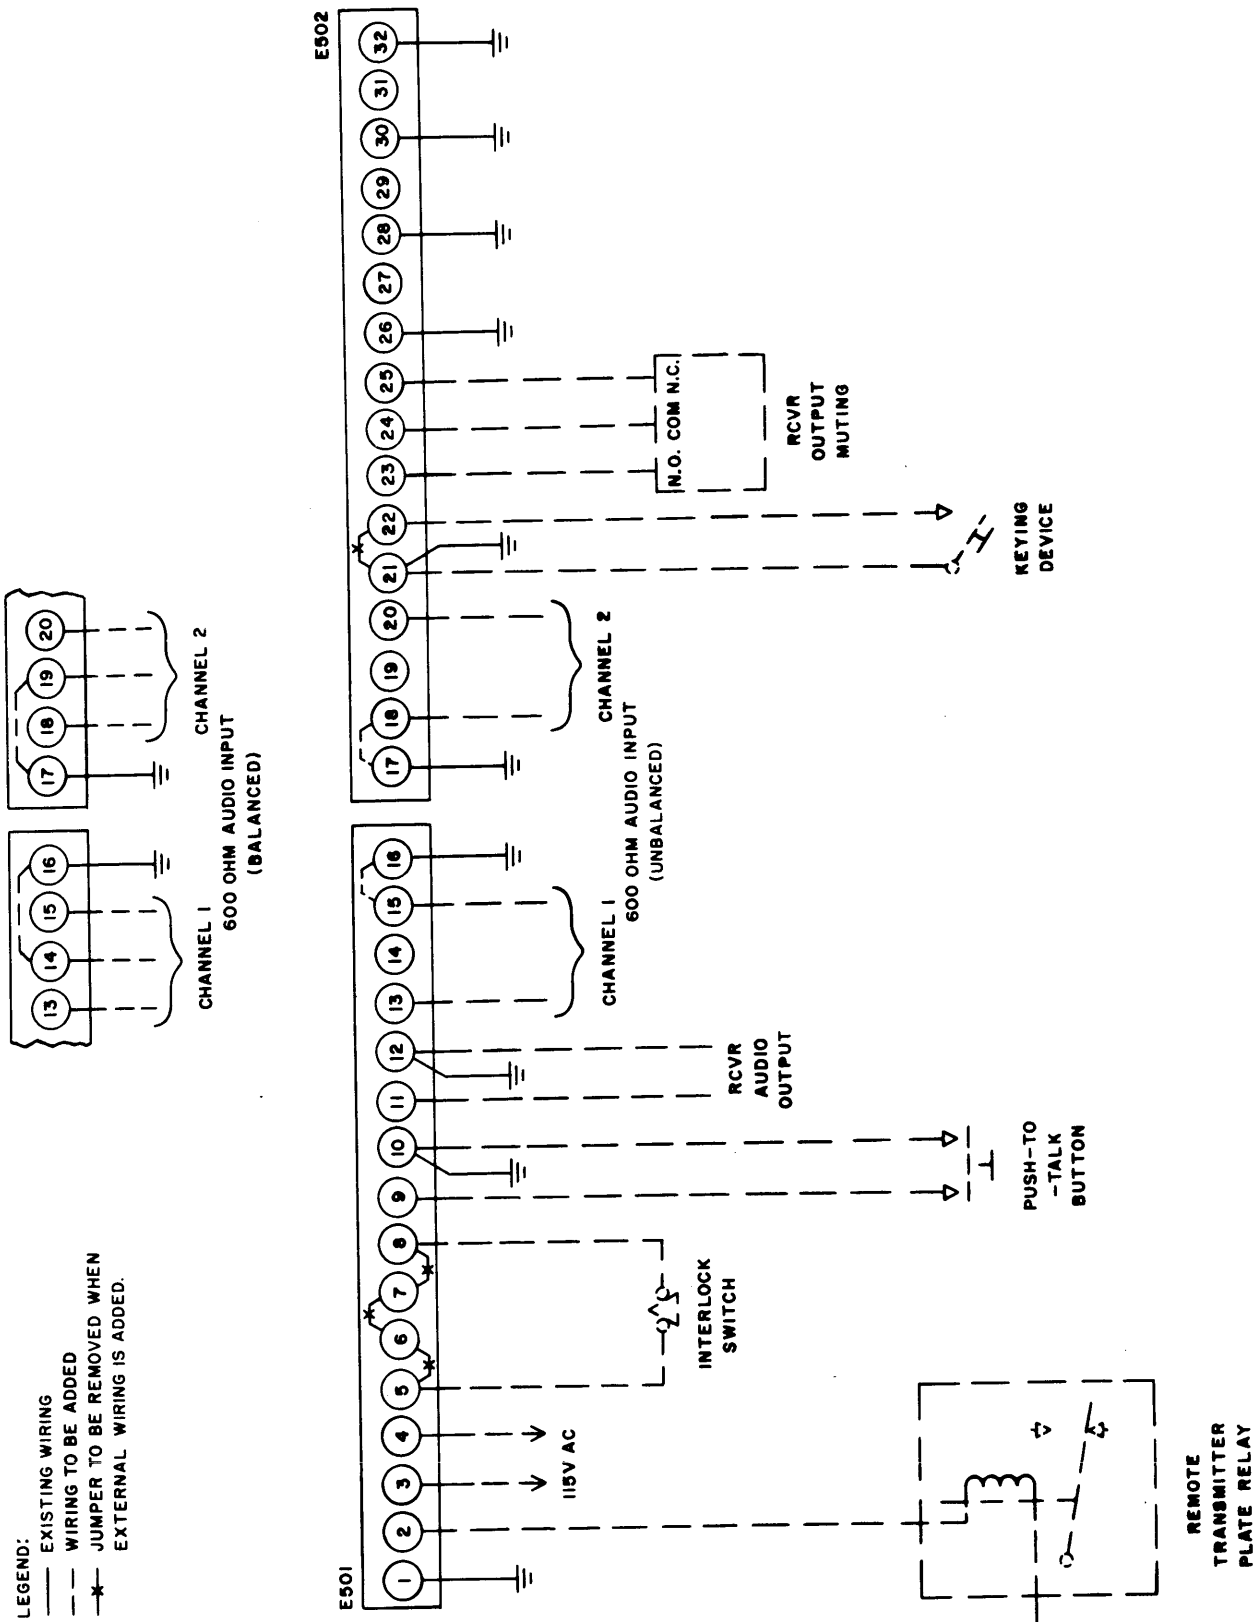

FIGURE 2-8. CONNECTION DIAGRAM, EXTERNAL EQUIPMENT TO SBT-1K(B)
(1) GENERAL. - Auxiliary Power Panel APP-4 is a standard modular unit present in all SBT-1K(B) transmitters. Besides functioning as a distributor for line voltage, the APP-4 provides two terminal blocks to facilitate connection of external equipment to the transmitter. Except for antenna and receiver connections at jacks J609 and J606 on RF Output Assembly AX-198 and the MIKE connection on Exciter Unit A-1516, all external connections may be made at terminal blocks E501 and E502 located at the rear of Auxiliary Power Panel APP-4. Figure 2-8 and the following paragraphs illustrate the possible external connections to the SBT-1K(B). Schematic diagrams in the individual modular-unit manuals should be used as an aid for tracing wiring.
(2) REMOTE TRANSMITTER PLATE RELAY. - Terminals 1 and 2 of terminal block E501 are provided for attachment to the coil of a relay supplying plate voltage to an additional stage of r-f amplification external to the SBT-1K(B). This enables control of the entire transmitter at the exciter unit panel by means of the XMTR OFF/ON switch. Such a relay is sometimes employed in larger TMC transmitter systems of which SBT-1K(B) is a sub-assembly.
(3) REGULATED 115 VAC. - Terminals 3 and 4 of terminal block E501 are available for an extension source of the regulated 115 VAC used in Power Supply PS-4.
(4) EXTERNAL INTERLOCKS. - Terminals 5,6, 7 and 8 of terminal block E501 are provided for connection of additional safety interlock/s
(5) PUSH-TO-TALK SYSTEM - Terminals 9 and 10 of terminal block E501 are provided for a push-to-talk button attachment. A push-to-talk system may be used in lieu of or along with the voice-operated (VOX) circuit available in the exciter unit.
(6) RECEIVER SQUELCH - Terminals 11 and 12 of terminal block E501 are provided for the attachment to a receiver audio output, if receiver "squelch" is desired when using the VOX (voice-operated) feature in the exciter unit. Receiver squelch is used in order to prevent sound from a nearby receiver or other source from automatically actuating the VOX circuit.
(7) AUDIO INPUT - CHANNELS 1 AND 2 - Terminals 13 through 20 of terminal block E502 are provided for the attachment of two separate sources (or channels) of intelligence in the form of 600-ohm audio. Figure 2-8 illustrates connections for either balanced or unbalanced inputs.
(8) KEY LINE - Terminals 21 and 22 of terminal block E502 are provided for the attachment of a keying device in CW mode of transmission. Pushing down on key grounds the cathode circuit of first r-f amplifier V118 in Exciter Unit A-1516 enabling it to operate.
(9) RECEIVER MUTING - Terminals 23, 24 and 25 of terminal block E502 are provided for receiver muting. The purpose of this feature is to automatically disable the receiver when the transmitter is sending and enable it when the transmitter is in OFF or STANDBY condition. Terminals 23 and 24 make contact with each other through